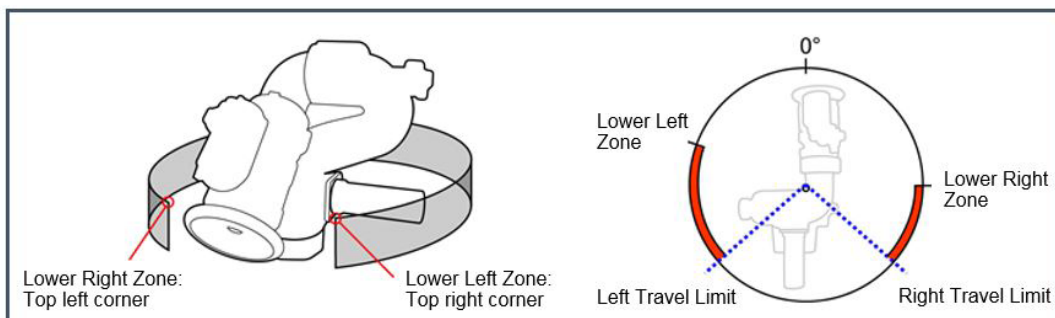

Figure 1: Keep-Out Zones
- **Lower-Right Keep-Out Zone** – The Right Keep-Out Zone will prevent the monitor from moving down and to the right into a specified zone (reference figure 1).
- **Lower-Left Keep-Out Zone** – The Left Keep-Out Zone will prevent the monitor from moving down and to the left into a specified zone (reference figure 1).